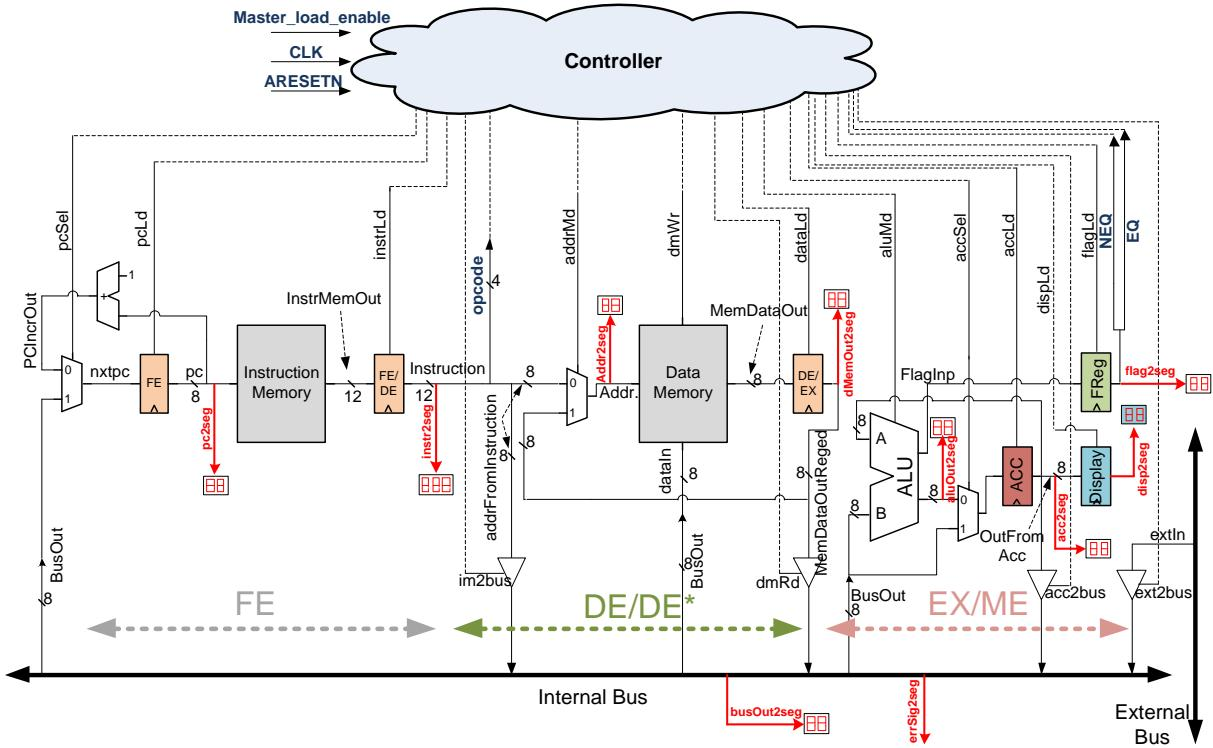

Figure 1: ChAcc processor datapath
The top-level design of ChAcc processor includes a) the implementation of datapath modules such as memory, registers and the bus, b) initialization of memory components and c) connecting all the datapath components together, assuming the controller as a black box. The datapath of ChAcc is depicted in Figure 1.
The goal of this task is to implement the Bus. The bus is depicted at the bottom of Figure 1 while its interface (inputs/outputs) is presented in detail in the processor’s specification document. In Figure 1, it is designed using tri-states buffers (described in lecture 3). However, the tri-state buffer-based implementation suffers from the drawback that the bus output takes an undefined value if more than one control signal is enabled.
In the previous two tasks, you implemented the storage modules and the bus. The rest of the modules are ready from the previous labs. The adder ($PC=PC+1$) on the top left corner of the datapath can be implemented either by using a ripple carry adder or by expressing it in behavioral code. Verify that you have all the modules by looking at Figure 1. The final task is to implement the top-level design of the ChAcc processor datapath by connecting the modules, as is exactly depicted in Figure 1, using structural VHDL (components and port maps).
needed when connecting components to each other. These signals must be declared in the declaration region of the *Architecture Body*. Use the same names, as used in Figure 1. In cases a signal name is not given, give a name yourself. Use descriptive names (e.g., *InstrToInstrReg*), as they become very useful when debugging.
Finally, in Figure 1, note that some signals are connected to 7-segment displays, except for the bus error signal (1-bit) which is connected to a led. These signals must be connected to the respective output signals that are mentioned in the entity below. The other input signals of the entity (*CLK*, *ARESET* and *Master_load_enable*) are explained in the document *processor.pdf*.
Port (  externalIn : in STD_LOGIC_VECTOR (7 downto 0); -- "extIn" in Figure 1
3. Write a VHDL module that implements the top-level design of the ChAcc datapath. Connect all the modules using Figure 1. Assume that the controller is a black box. Compile your file in ModelSim and show the VHDLcode to the instructor. You cannot simulate the design since the real controller is still missing.